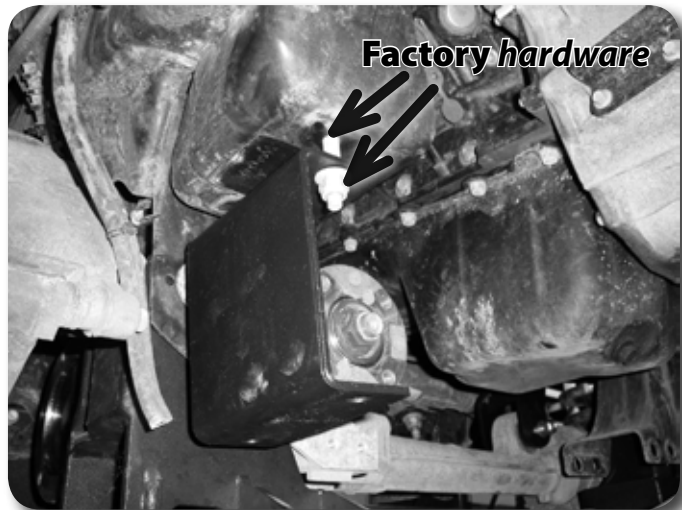

Figure 35
65. Torque 10mm sway bar drop hardware to 35 ft-lbs and 18mm front and rear crossmember mount bolts to 222 ft-lbs. Ensure that the front crossmember is centered in the vehicle. Use a socket on an extension to easily access the nuts. (Figure 35)